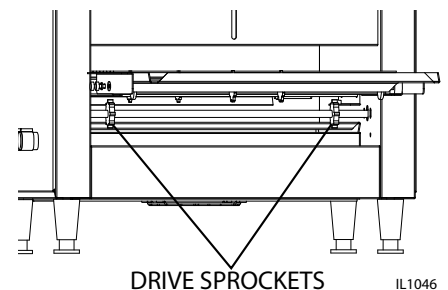

Fig 2. Conveyor Drive Sprockets
4. Now that the links have been unhooked, the conveyor can now be carefully removed from the oven. Standing at one end of the oven. Starting with the end on the bottom, roll the conveyor belt until it has been totally removed. Take careful notice being sure not to damage the heater tubes, and working it over the drive sprockets, (see Figure 2).
7. Reinstall conveyor belt by first laying the belt along the bottom of the oven cavity making sure the hooks on the sides are facing the inside and the ends of the hooks will be pointing away from the direction of the belt so not to catch on any internal components once put back into operation. Also, being sure to properly align the belt over the Conveyor Drive Sprockets shown in Fig 2.